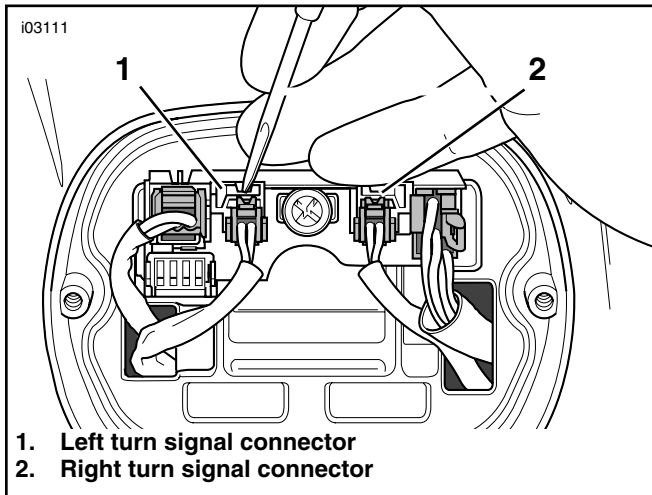

Figure 4. Disconnect Turn Signals at Tail/Stop Lamp (2000 Shown)
- See Figure 4. Disconnect left (1) and right (2) turn signal (two places) connectors from sockets. Cut wires at connector as close to terminal end as possible. Discard connectors and terminals.